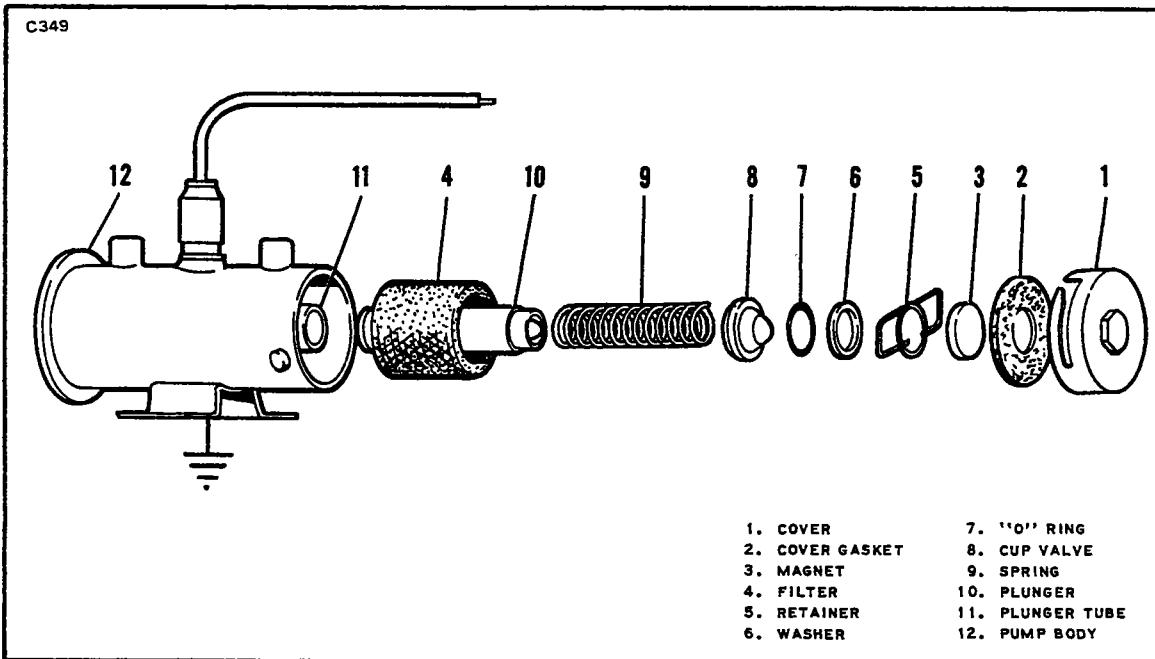

Figure 9-12. Plunger Fuel Pump (Late)
b. Late Type Pump: (Refer to Figure 9-12.)
b. Early Type Pump: (Refer to Figure 9-12.)
1. Insert the plunger spring assembly (10) in the tube with the buffer spring end first. Check fit by slowly raising and lowering the plunger in the tube. It should move fully without any tendency to stick. If a click cannot be heard, the interrupter assembly is not functioning properly in which case the pump should be replaced.